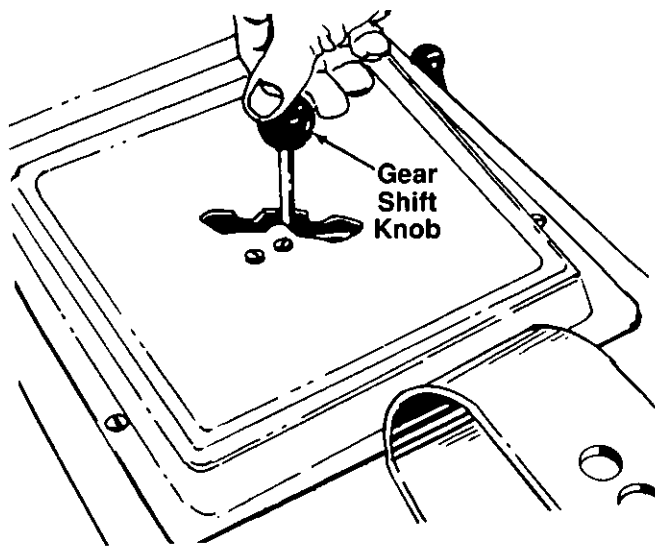

FIGURE 3.
1. Place gear shift lever in the "neutral" position. Unscrew the gear shift knob. See figure 3.